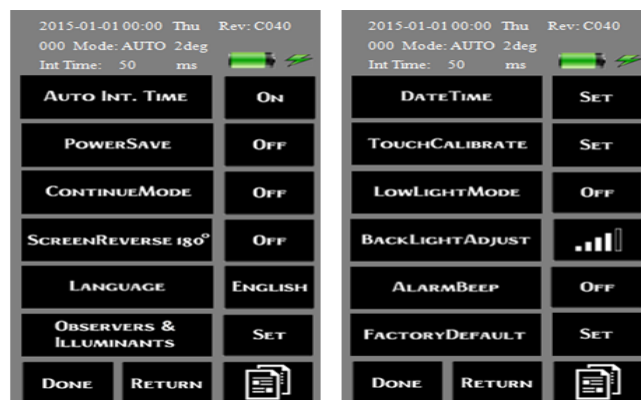

Fig. 13 Setting Pages
- Press the “**SETTING**” button into setting page. (Fig. 13)